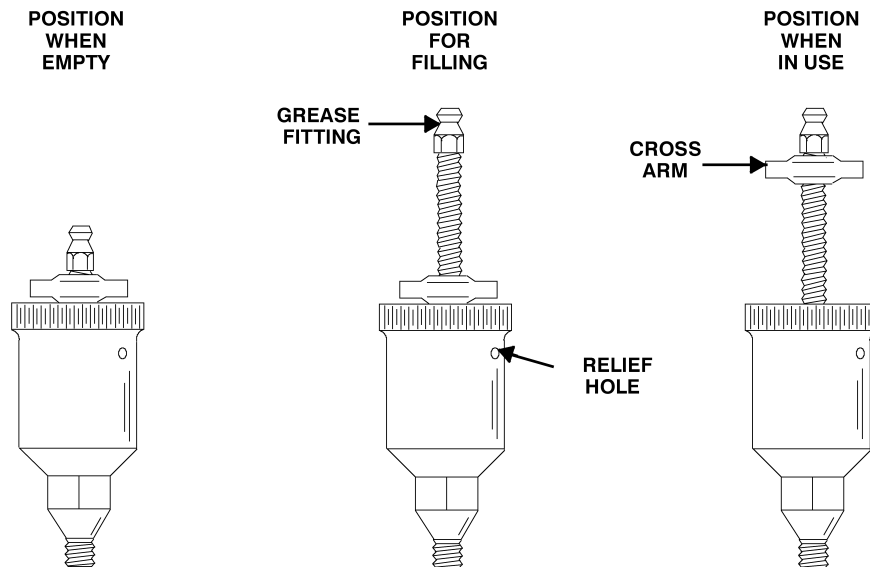

Figure 4. Automatic Lubricating Grease Cup
Before removing the impeller, turn the cross arm on the automatic grease cup (11) clockwise until it rest against the cover (see Figure 4). This will prevent the grease from escaping when the impeller is removed.
Fill the grease cup (11) through the grease fitting with No. 2 lithium base grease until grease escapes from the relief hole. Turn the grease cup arm counterclockwise until it is at the top of the stem; this will release the spring to apply grease to the seal (see Figure 4).